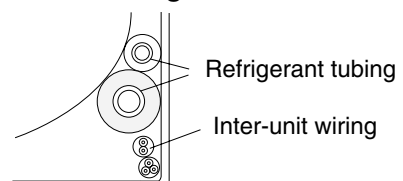

Fig. 3-49
- (3) Install the indoor unit on the rear panel.
- (4) Connect the tubing and wiring led inside from outdoors.
- (5) After completing a leak test, bundle the tubing together with armoring tape and store it inside the tubing storage area at the back of the indoor unit and hold it with clamps. (Fig. 3-49)